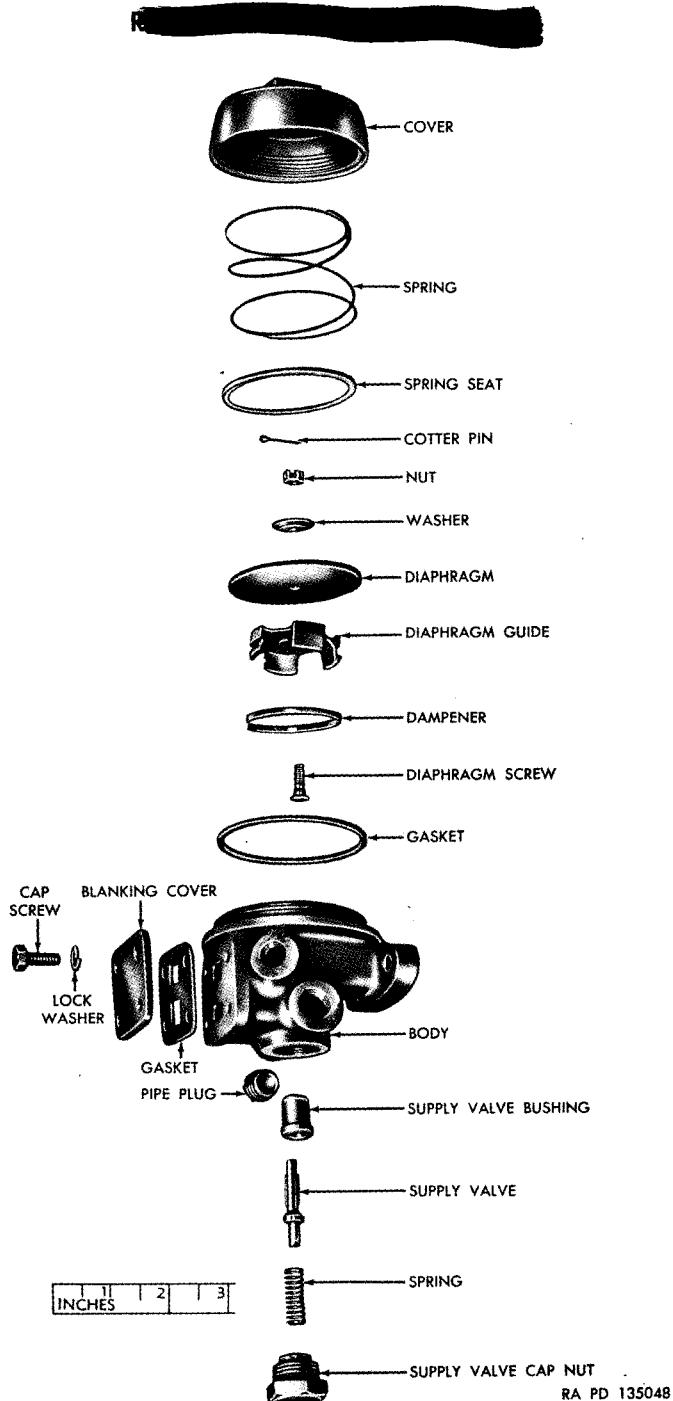

Figure 126. Type R relay valve—exploded view.
c. Remove cotter pin from diaphragm screw (fig. 126). Unscrew nut and lift washer, diaphragm, and diaphragm guide off diaphragm screw (fig. 126).
d. Unscrew supply valve cap nut and remove spring and supply valve (fig. 126).
e. Remove four cap screws and lock washers attaching blanking cover and lift off cover and gasket (fig. 126).
- a. *Install Blanking Cover* (fig. 126). Position blanking cover and gasket and install four cap screws and lock washers attaching blanking cover to body.
- b. *Install Supply Valves* (fig. 126). Position supply valve and spring and install supply valve cap nut. Tighten supply valve cap nut securely.
- c. *Assemble Diaphragm Assembly* (fig. 126). Insert diaphragm screw through diaphragm guide and diaphragm. Install diaphragm washer with convex side of washer next to the diaphragm. Install diaphragm screw nut but only tighten sufficiently to prevent leakage and not sufficiently to distort the diaphragm. When the nut is tightened correctly, it is still possible to turn the diaphragm with the guide held stationary. Install cotter pin securing diaphragm nut.
e. Install Cover (fig. 126). Position a new cover gasket in place. Position spring seat and diaphragm spring on diaphragm and install cover. Tighten cover securely.